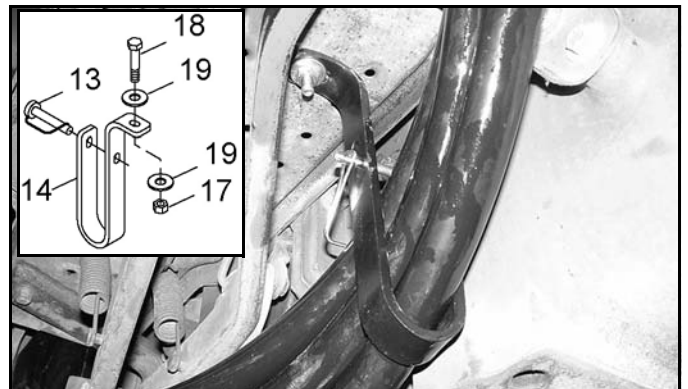

Figure 24. Hose Hanger Installed
1. Install hose hanger bracket (14) under platform between brake pedals and chassis as shown in Figure 24.
2. Secure with hex head cap screw (18), flat washers (19), and lock nut (17).